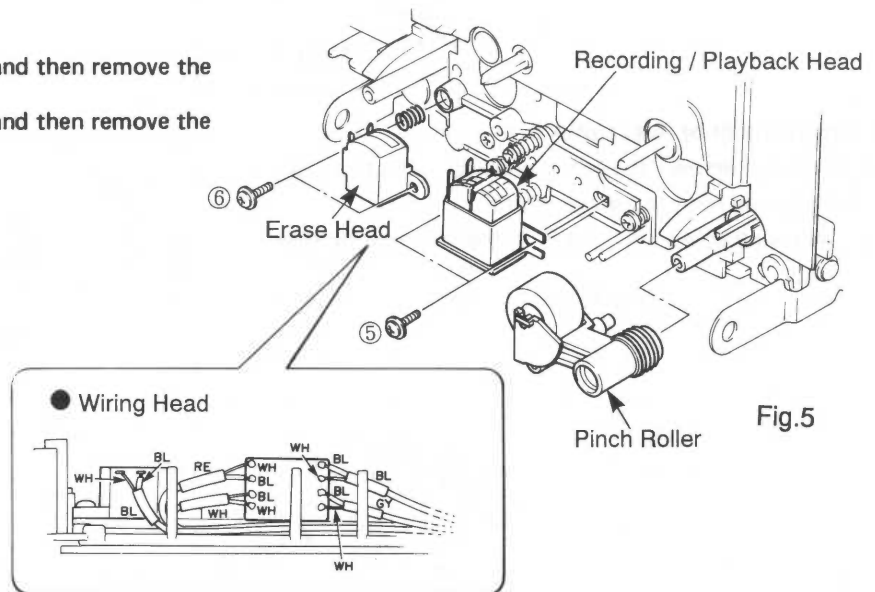

Fig.5
Unhook at 1 place as shown in Fig. 5 and remove the Pinch Roller.
- a. Remove 2 screws ( ⑤ ) in Fig. 5 and then remove the Recording/Playback Head.
- b. Remove 2 screws ( ⑥ ) in Fig. 5 and then remove the Erase Head.